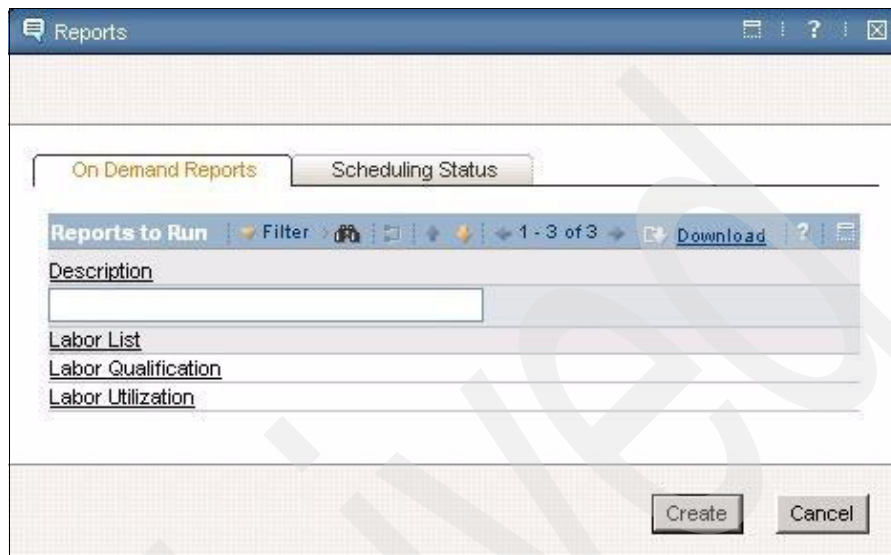

Figure 6-5 Selecting a report to run
- From the Select Action menu, select **Run Reports**. The Reports tab opens. The Reports to Run panel lists the available reports for the application (see Figure 6-5). Click the report that you want to run.